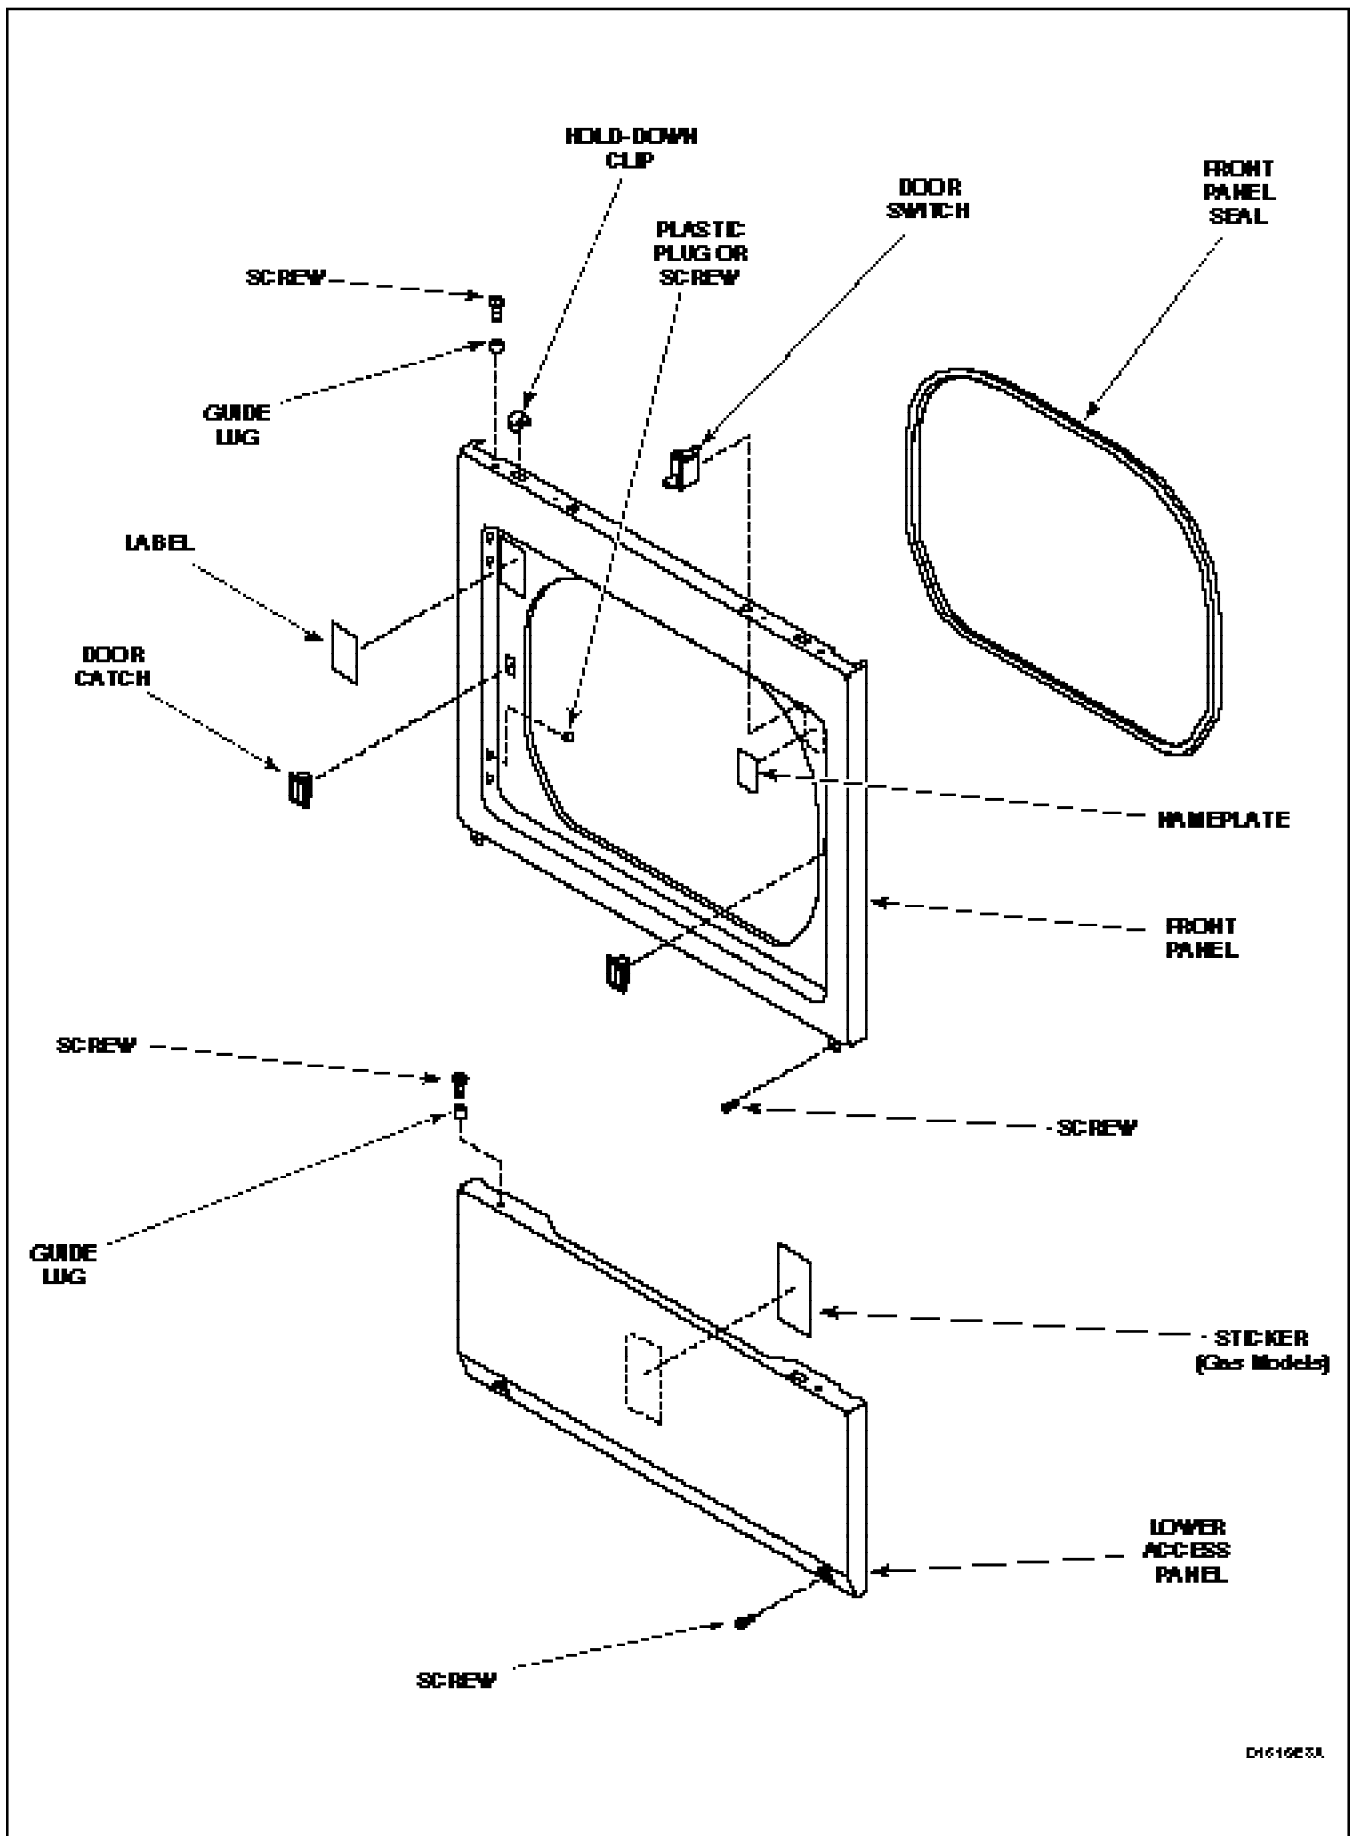
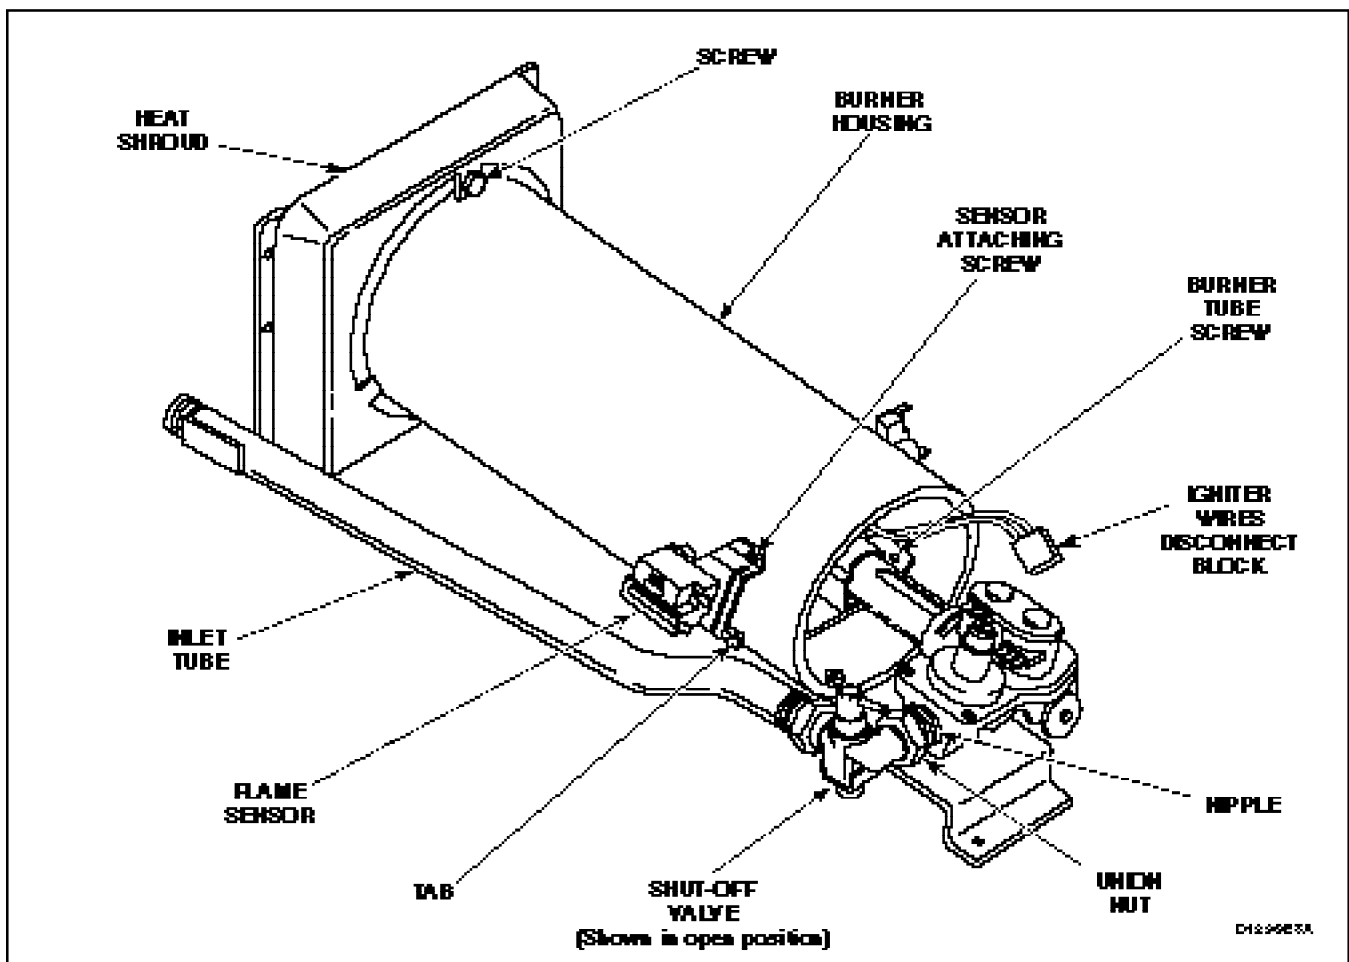
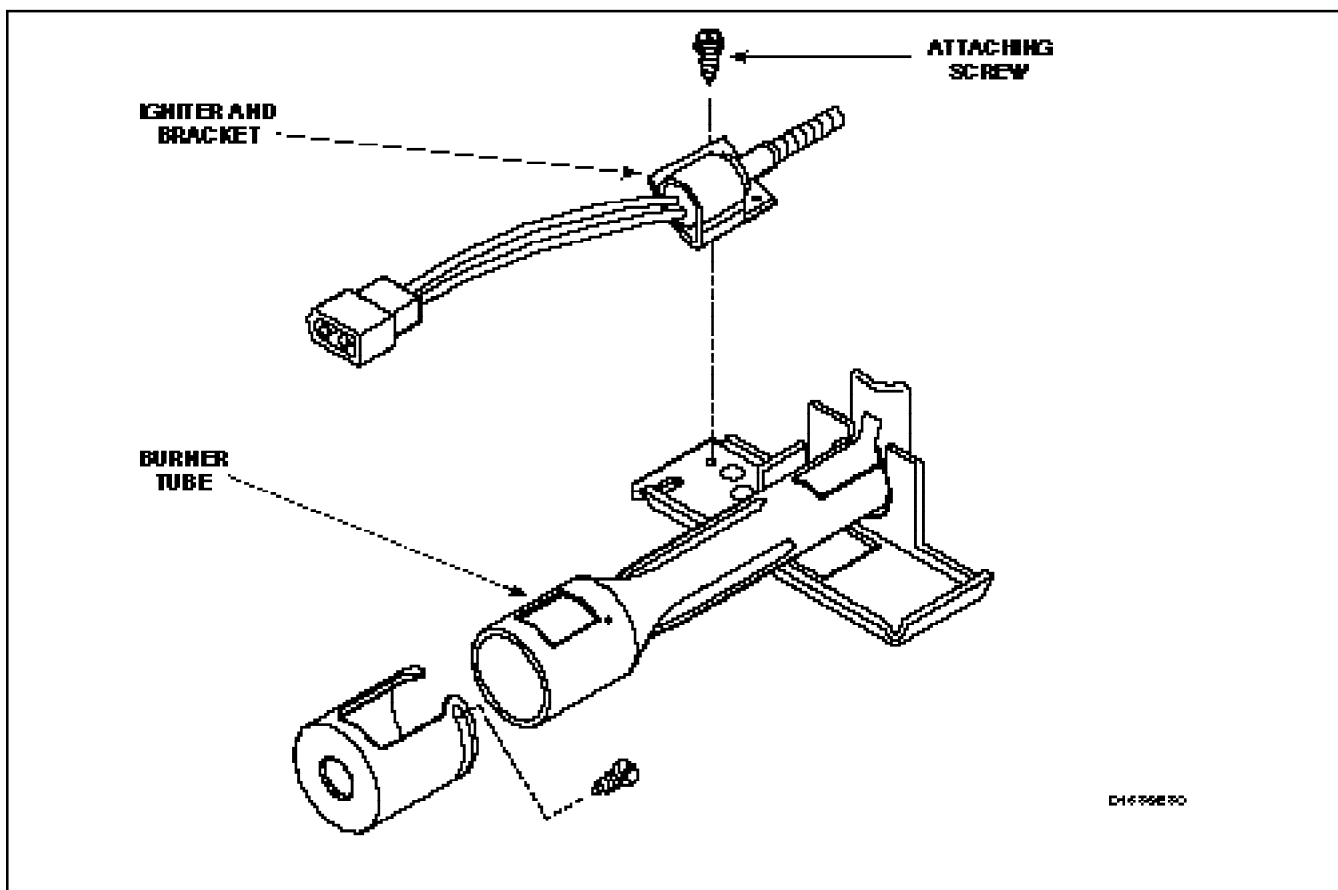

Figure 22
Figure 24
Figure 25
- While supporting the lower access panel, remove two screws from bottom edge of lower access panel, *Figure 22*.
- Remove two screws holding bottom tabs on front panel to dryer side panels, *Figure 22*. Swing bottom of front panel away from dryer far enough to disengage hold-down clips and guide lugs from cabinet top.
- Remove front panel seal from flange around inside of door opening, *Figure 22*.
- Remove two screws holding tabs on front panel to dryer side panels, *Figure 22*. Swing bottom of front panel away from dryer far enough to disengage hold-down clips and guide lugs from cabinet top.
- Remove two screws holding bottom tabs on front panel to dryer side panels, *Figure 22*. Swing bottom edge of front panel away from dryer far enough to disengage hold-down clips and guide lugs from cabinet top.
- Remove four screws holding four guide lugs to access panel or front panel, *Figure 22*.
- (1) While supporting the lower access panel, remove two screws from bottom edge of lower access panel, *Figure 22*.
- (2) Gently lower the access panel to disengage guide lugs from bottom edge of front panel.
- (3) Close gas shut-off valve, disconnect igniter wires at disconnect blocks, sensor wires from flame sensor terminals, and wires from gas valve coils at the quick disconnect blocks, *Figure 24*.
- (4) Disconnect gas shut-off valve from gas valve at the union nut, *Figure 24*.
- (5) Remove three screws holding valve and mounting bracket to base, *Figure 24*.
- (6) Lift gas valve and mounting bracket from base, *Figure 24*.
- (2) Gently move burner tube toward rear of dryer to disengage tab from slot on left side of burner housing, *Figure 24*.
- (3) Carefully rotate burner tube and igniter counterclockwise so tab is at 8 o'clock position.
- (4) Move air shutter end of burner tube slightly to right and CAREFULLY remove burner tube and igniter assembly out through front of dryer.
- (5) Remove screw holding igniter and bracket to burner tube and remove igniter and bracket, *Figure 25*.
c. **Flame Sensor**, *Figure 24*.
- (3) Remove wires from sensor terminals, *Figure 24*.
- (4) Remove screw holding sensor to burner housing, *Figure 24*.
- Disconnect igniter wires at disconnect blocks, sensor wires from flame sensor terminals, and wires from gas valve coils at the quick disconnect blocks, *Figure 24*.
- Gently move burner tube toward rear of dryer to disengage tab from slot on left side of burner housing, *Figure 24*.
- Remove screw holding burner housing to heat shroud, *Figure 24*.